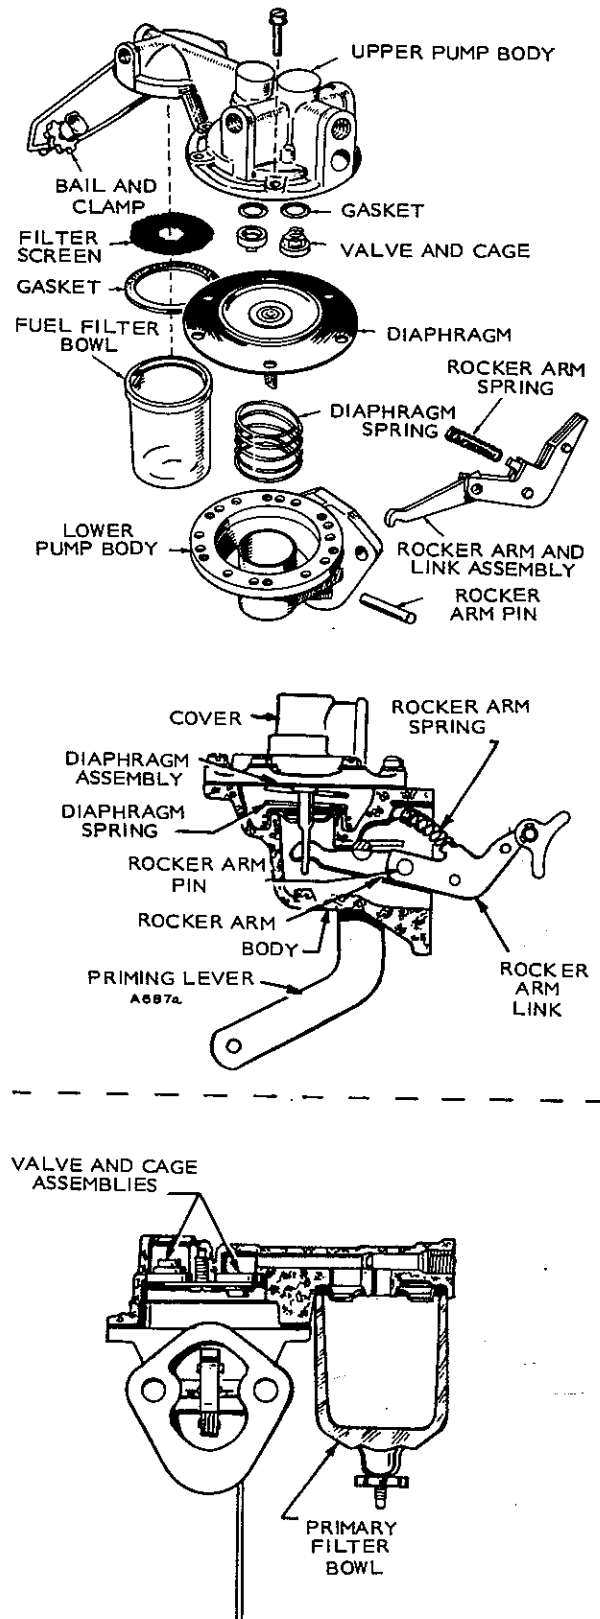

FIGURE 7-1. CCK SERIES MECHANICAL ACTUATED FUEL PUMP
Single action diaphragm fuel pumps (Figures 7-1, 7-2, 7-4) are standard equipment on all Onan gasoline and diesel engines except the BF which uses a pulsating diaphragm type of pump. A fuel sediment bowl filters engine fuel before it reaches the fuel pump.
The fuel pump is mechanically actuated by a rocker arm which rides on a lobe of the engine camshaft. A flexible diaphragm is operated up and down by a combination of rocker arm action and spring tension (Figure 7-1).
- g. Remove diaphragm actuating rod oil seal from pump body (Figure 7-1).
- a. Install inlet and outlet valves and their gaskets in their respective positions (Figure 7-1). Seat valves firmly.